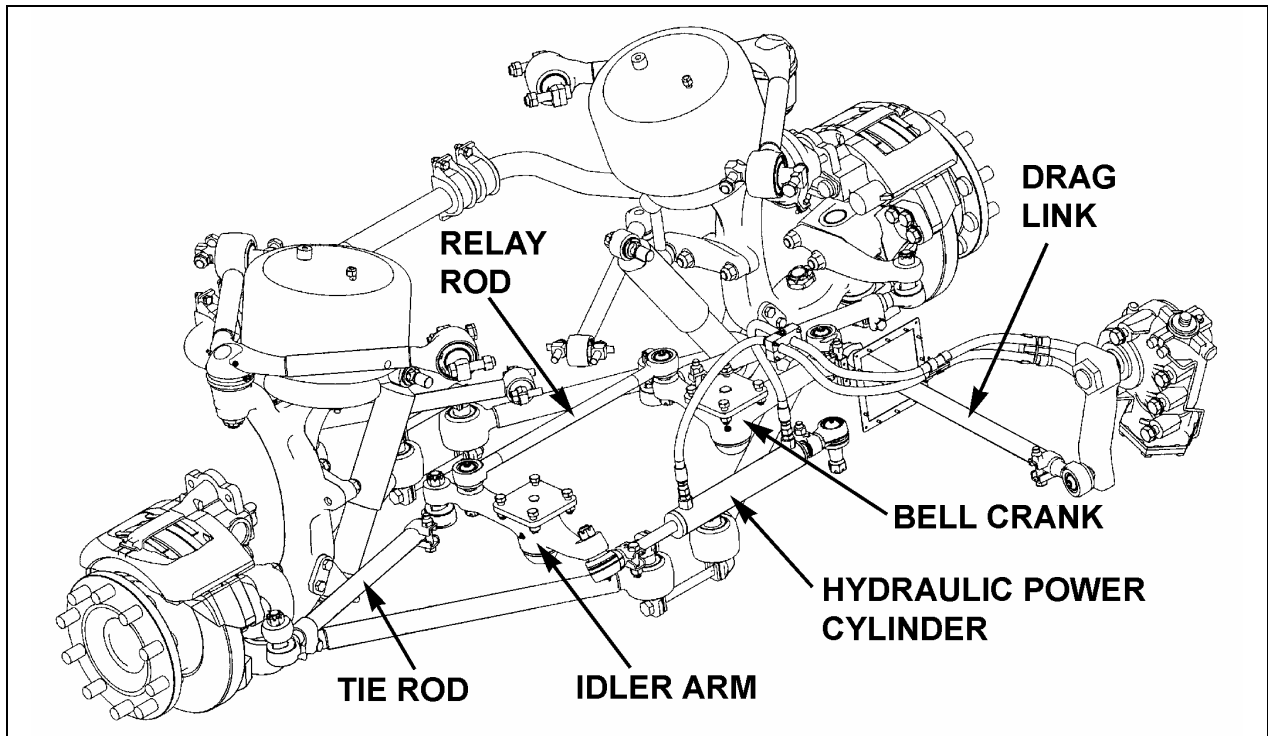

FIGURE 1: IFS
1. Remove cotter pin from bell crank ends and from tie rod end (Refer to figures 1 and 2).
2. Remove cotter pin from idler arm ends and from tie rod end (Refer to figures 1 and 2).